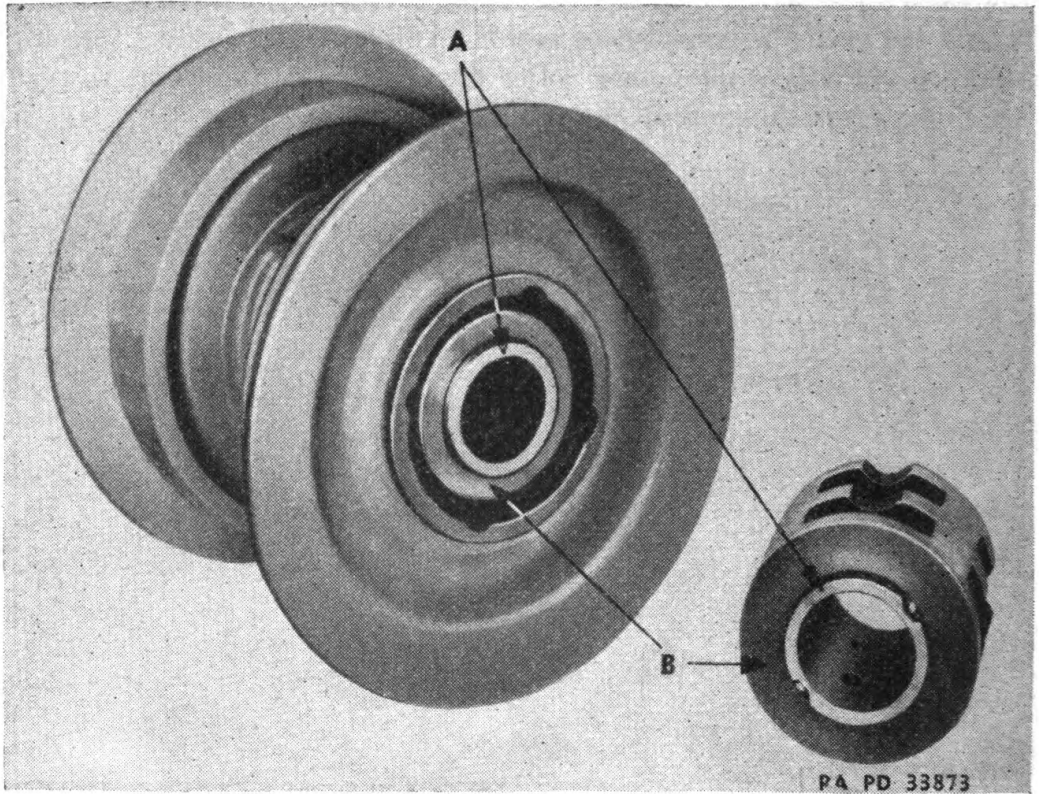

FIGURE 157.—Bushing removal.
(2) (*a*) Each roller bushing assembly consists of an iron bushing (B) (fig. 157) with a bronze insert bushing (A). Whenever a bronze insert bushing is to be replaced press out both the iron and bronze bushings. Clean thoroughly the recesses of the iron bushing before replacing it. Make certain the oil holes in the bronze insert bushing and the iron bushing are alined.